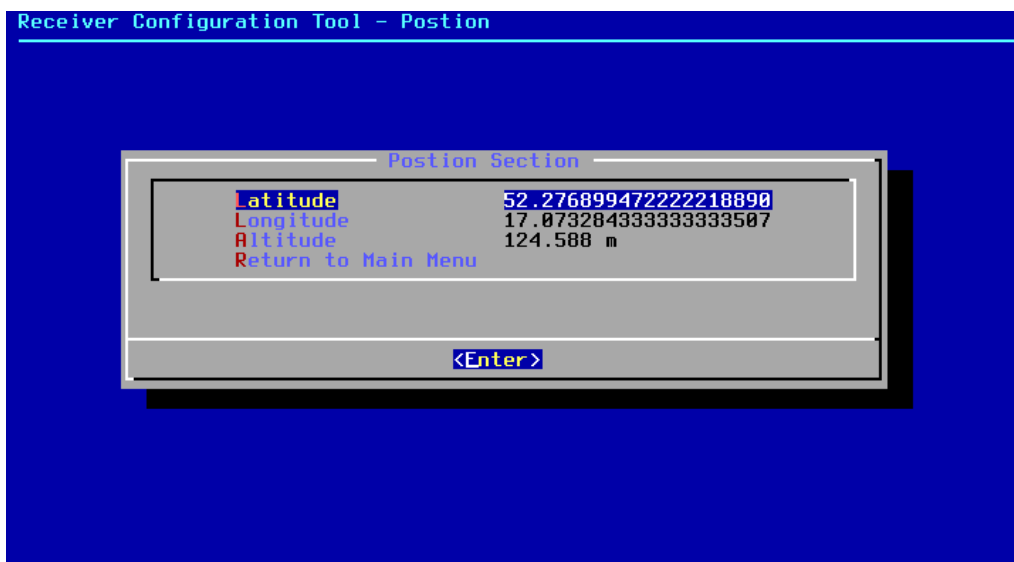

Figure 15: Antenna coordinates input.
4. Enter Latitude and Longitude of the receiver (fig. 15) using one of the following methods (16 and 17):